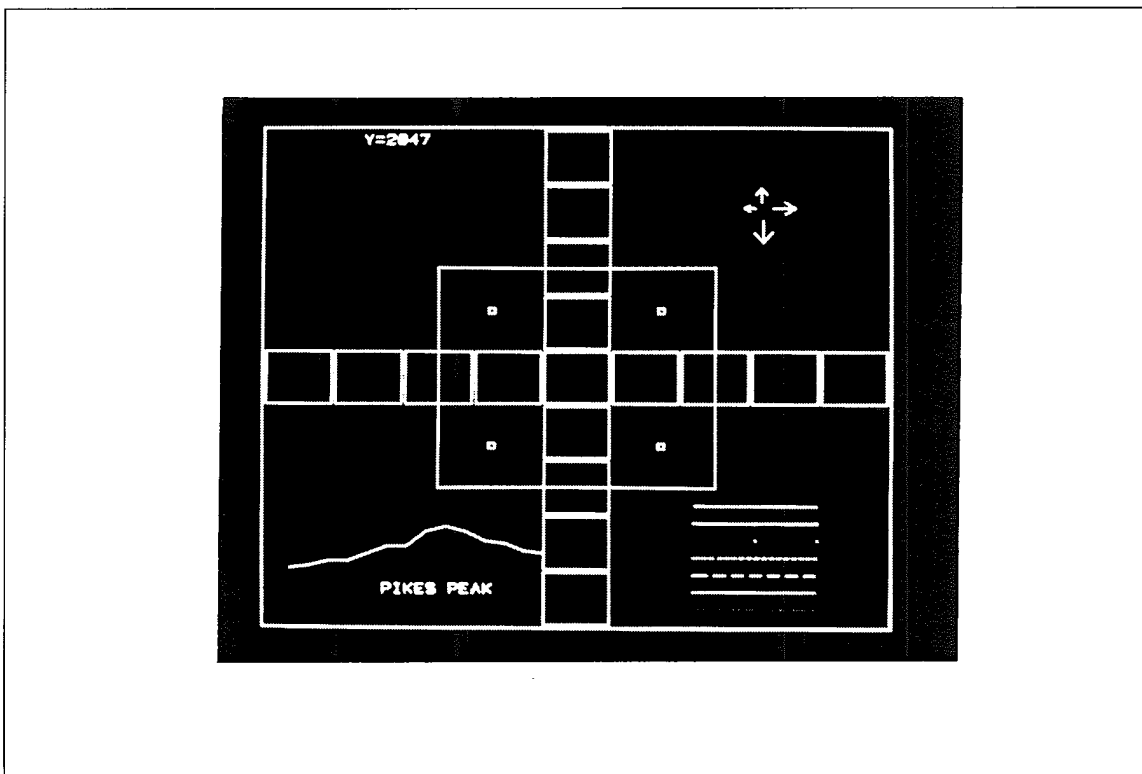

Figure D-1 Display of Verification Pattern
The HP 1345A display is a stand alone digital display. Use the HP 1345A service manual included with the instrument to service the display. To verify the display is failing, set jumper A17 W1 to the test(T) position. The pattern displayed should be the same as shown in figure D-1. To remove the display from the instrument perform steps 1 through 8: